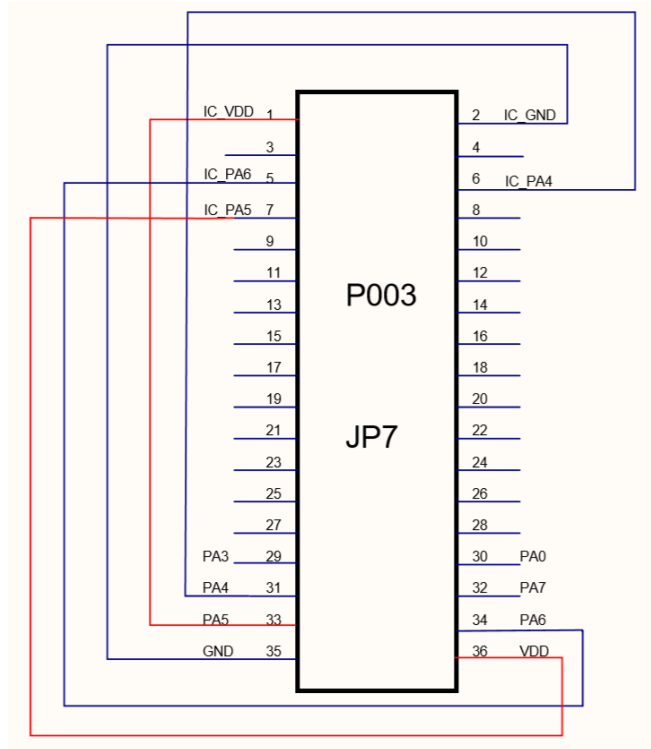

Fig.23: schematic diagram of Jumper7
2. As shown in figure 23, it is the Jumper7 connection method.